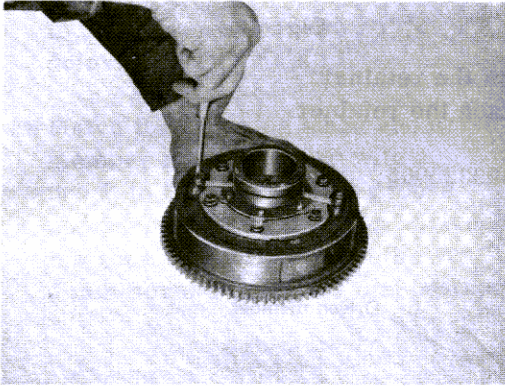

Fig. 41
- (1) Remove the "O" ring from the driven member and remove the two 4 mm screws to detach the slip ring terminals from the drive member. (See Fig. 41)